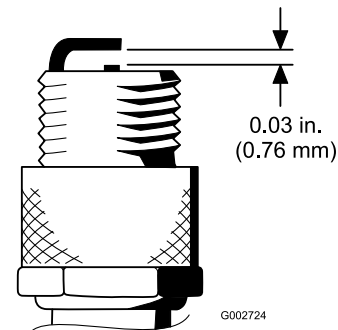

Figure 29
4. Set the air gap between the center electrode and side electrodes to 0.76 mm (0.030 inch); refer to Figure 29. Install the correctly gapped spark plug with the gasket seal, and tighten the plug to 23 N·m (200 in-lb). If a torque wrench is not used, tighten the plug firmly.